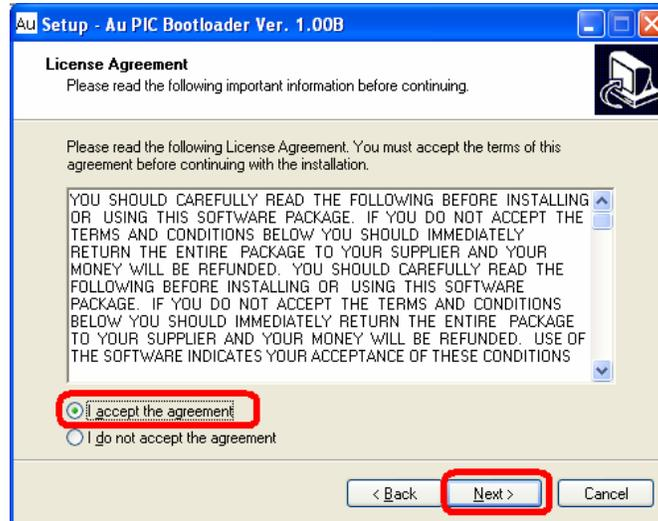

Figure 6-16
- 3. A “License Agreement” window will pop up, read the license agreement and select “I accept the agreement”, then click “Next” to continue (Figure 6-16).